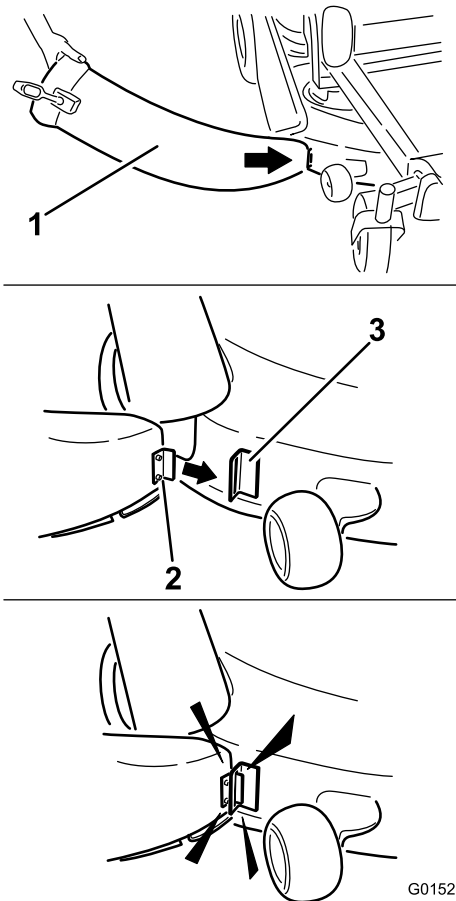

Figure 24
1. Angle the metal tab at the front of the chute into the slot in the bracket welded to the mower deck (Figure 24).